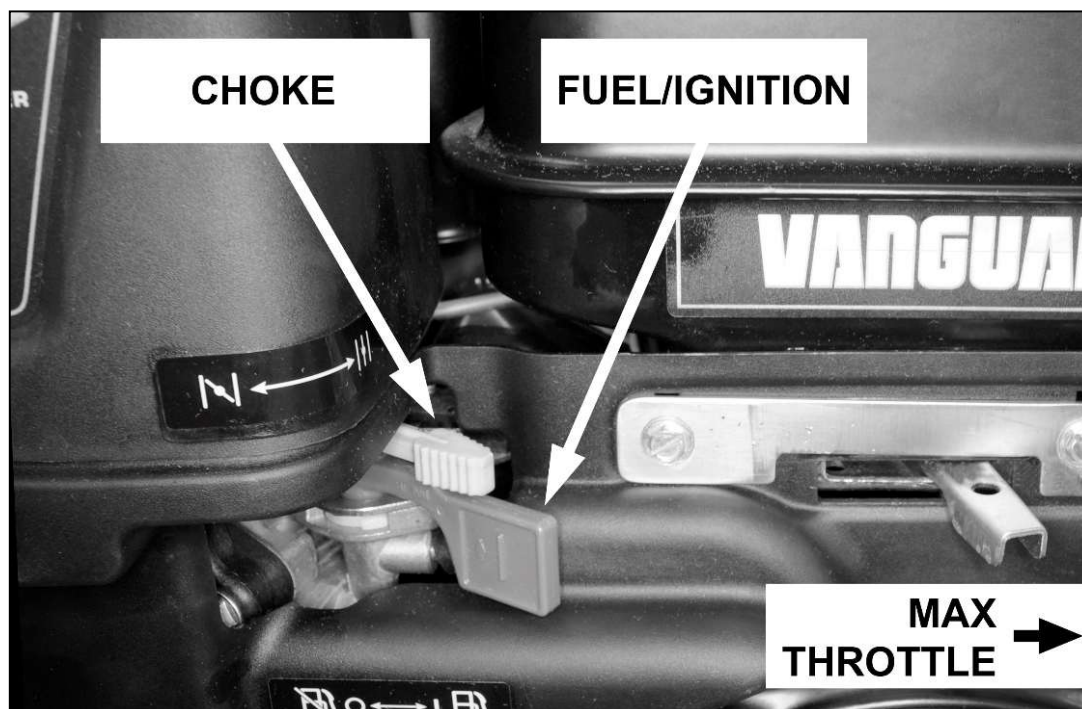

Fig. 3 – Engine Controls
2. Move the red combined **Fuel Valve** and **Ignition** lever on the engine to the fully OPEN position (I ) – see Fig. 3.